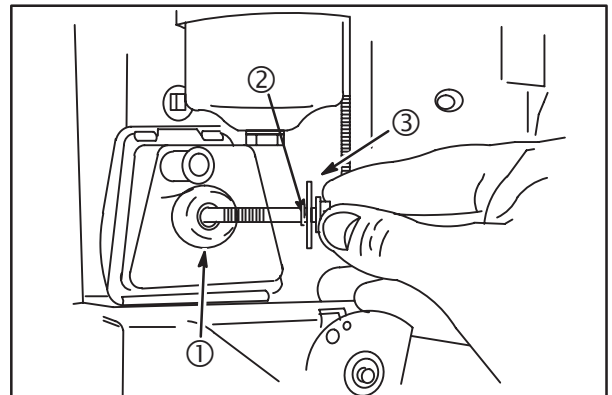

Fig. 9
2. Place large O-ring (1) on breather, **Fig. 9**.
3. Assemble washer (3) and small O-ring (2) to screw.